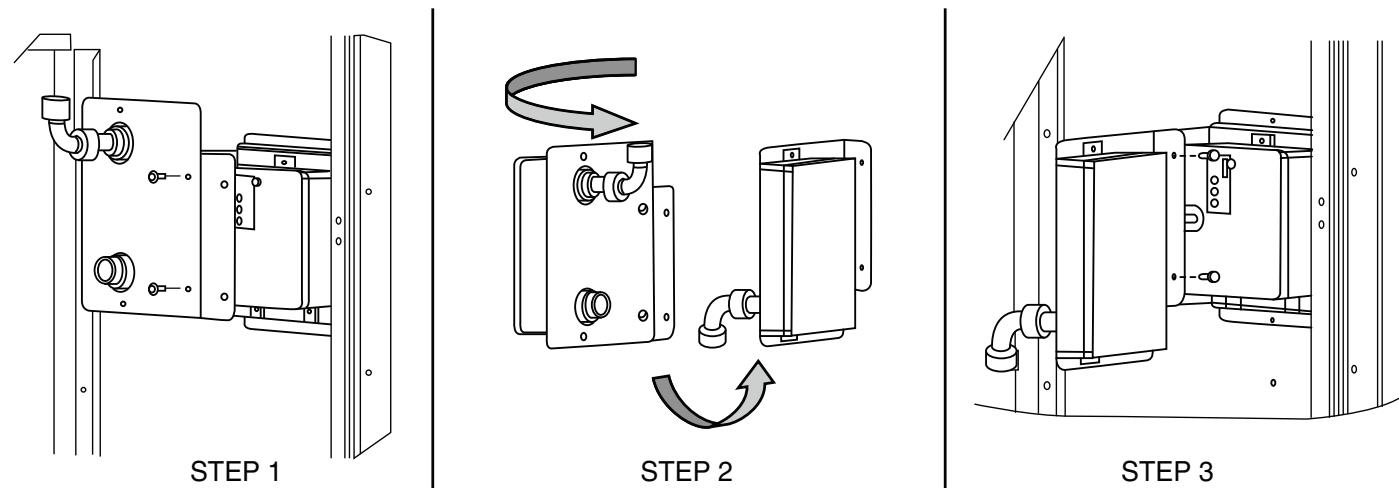

Fig. 51 — Completing Installation of Return-Air Smoke Sensor
1. Unscrew the two screws holding the return-air smoke detector assembly. See Fig. 51, Step 1. Save the screws.
2. Turn the assembly 90 degrees and then rotate end to end. Make sure that the elbow fitting is pointing down. See Fig. 51, Step 2.
3. Screw the sensor and detector plate into its operating position using screws from Step 1. See Fig. 51, Step 3.